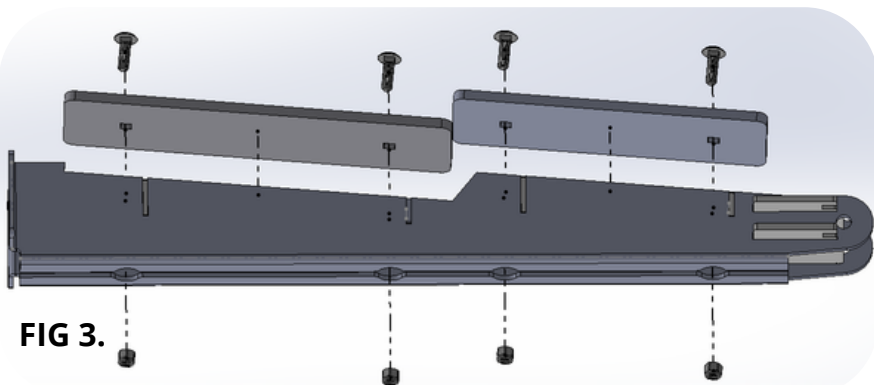

FIG 3.
5. Assemble Stand Protector Plates, to Upright with 3/8" x 1-1/4" Carriage Bolts and 3/8 Nylon Nuts, as shown in Fig. 3. (4 pcs)